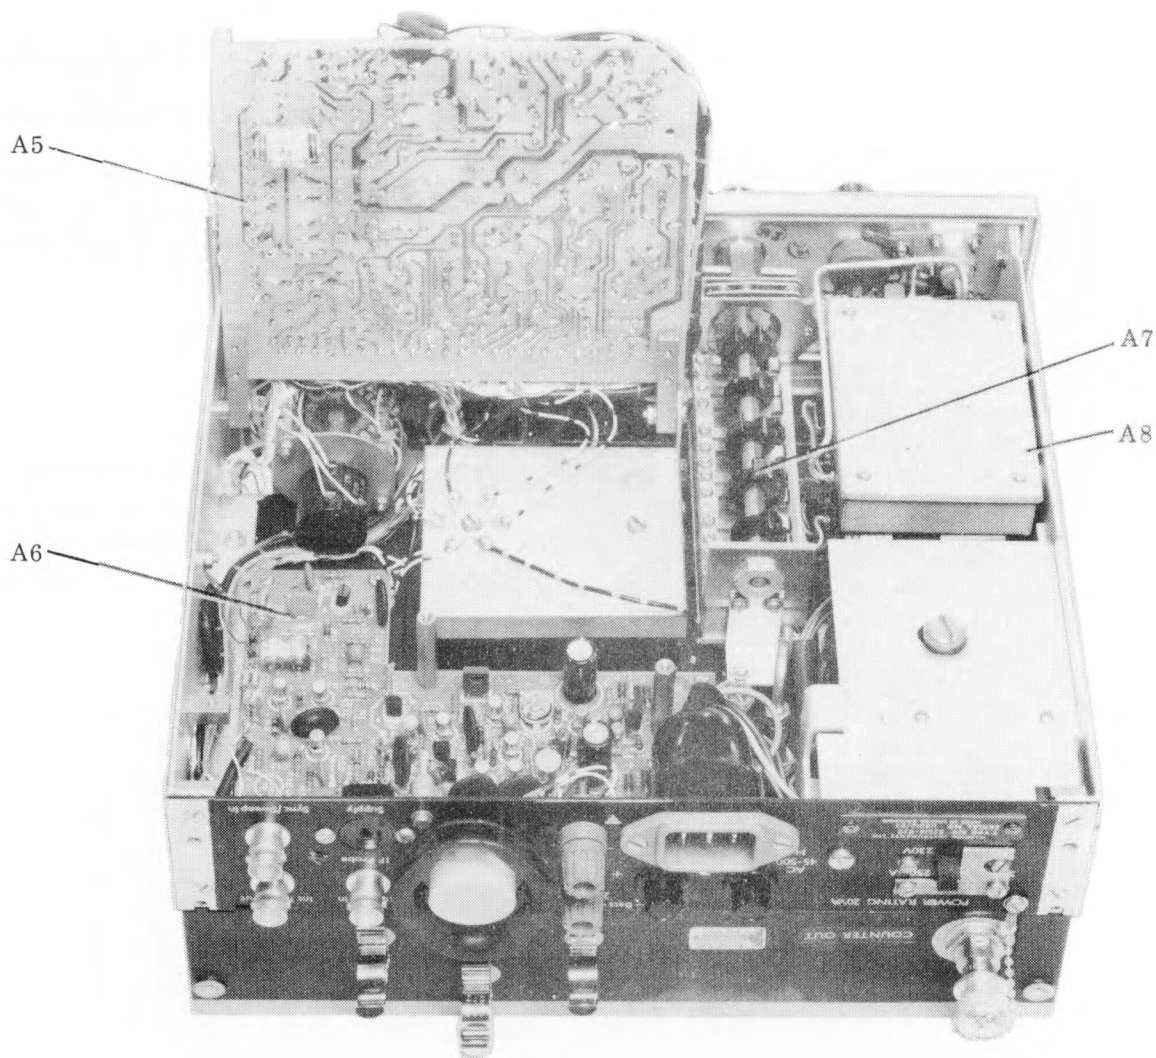

Fig. 2 Bottom view showing boards A5 to A7
6. The position of these units is shown in Fig. 2 and both are directly accessible from the underside of the instrument. A5 is retained by the two M2.5 screws, one of which is near the middle of the board, and one M3 screw which fixes the mounting block to the side frame of the instrument. The pivot bolts must be loosened before hinging A5 back. (To retain A5 in the open position while servicing, one pivot may be tightened). A6 is retained by six M2.5 screws and also the support pillar for A5 which is 5.5 mm across flats.